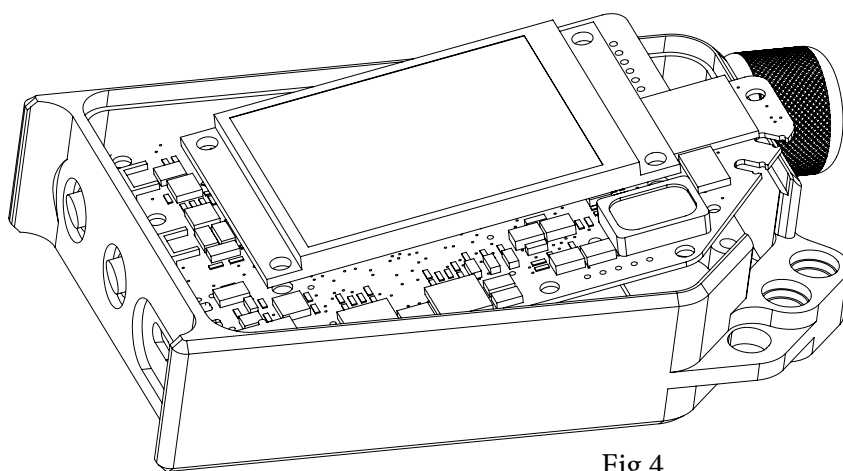

Fig 4.
4. *Install the Main Board:* Remove the **Main Board** from its packaging. Insert it into the **Housing** by angling the SMA connectors into their holes in the **Housing** (Fig 4.), then tilt the **Main Board** down onto the pins on the **Encoder Board**. Push on the upper right corner of the board until it firmly connects to the **Encoder Board** pins. If it doesn't set down mostly flat, the battery may have shifted.